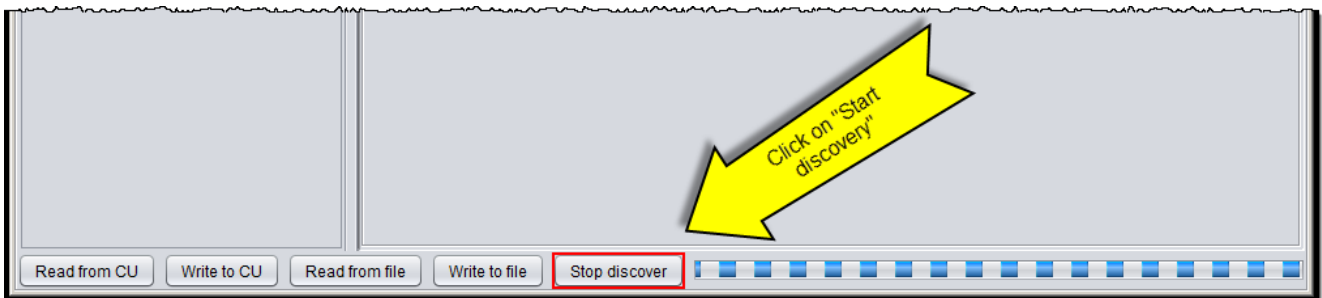

Figure 38: Start discover
1. If not done yet, click on “**Start discover**” button as shown in Figure 38 to put the CU in *Discovery mode*. In this mode the CU checks for new IDAMs or DAMs present in the system.
1. If not done yet, click on “**Start discover**” button as shown in Figure 38 to put the CU in *discovery mode*. In this mode the CU checks for new IDAMs or DAMs present in the system.